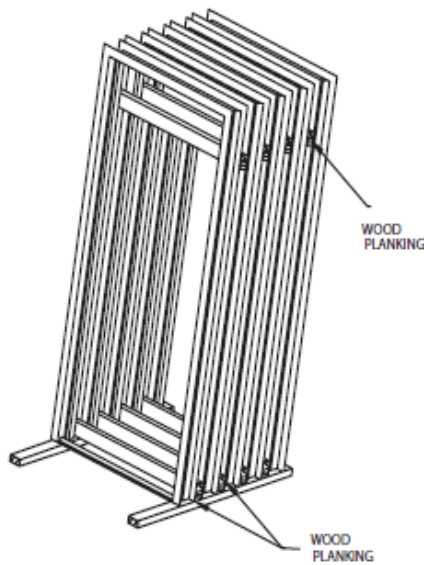

FIGURE 1
3. Store doors and frames in an upright position. Figures 1 and 2